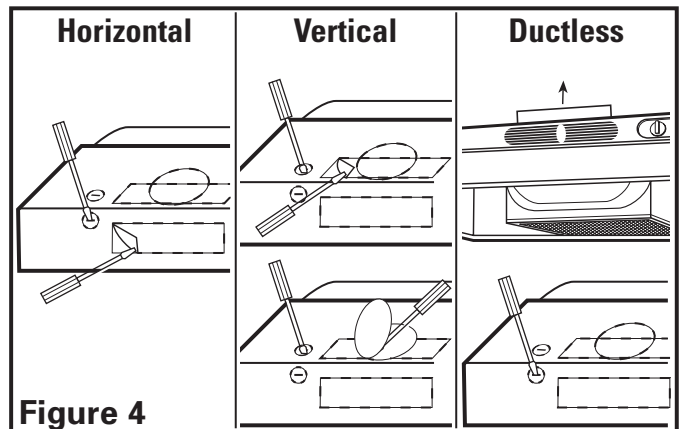

Figure 4
- Horizontal or Vertical** - Remove the square knockout by inserting a screw driver under the edge and break the tabs holding it in place. Peel back with pliers (**Figure 4**).
- Ductless** - Lift up and remove the hood's vent insert located behind the grill, exposing the front air slots. Do not use a screwdriver or any other object that could scratch the hood (**Figure 4**).
- 7" Round** - Remove the round knockout located on the top of the hood by inserting a screw driver under the edge and break the tabs holding it in place. Peel back with pliers (**Figure 4**).
- Determine where the electrical service will enter the hood and remove the appropriate electrical knockout by inserting a screw driver into the slot and rocking back and forth until the knockout comes loose (**Figure 4**).